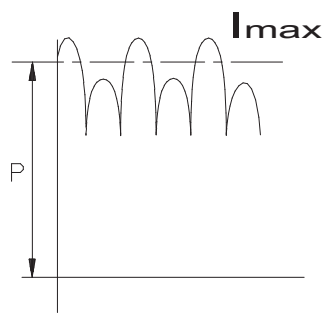

Fig. 2
- Not permissible adjustment see fig. 2